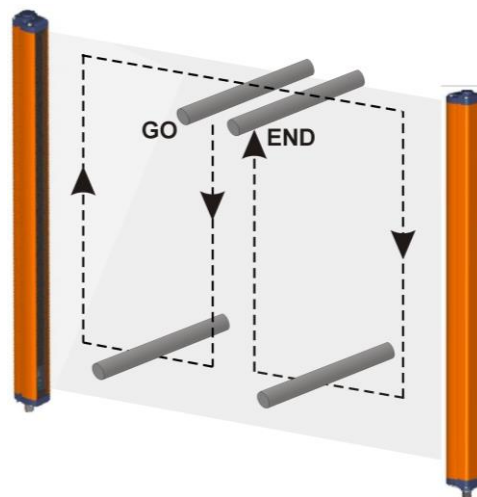

Fig. 13
- ESPE remains blocked (➡) intercepting the beams along the protected area using the specific test piece, following the Fig.13 scheme.